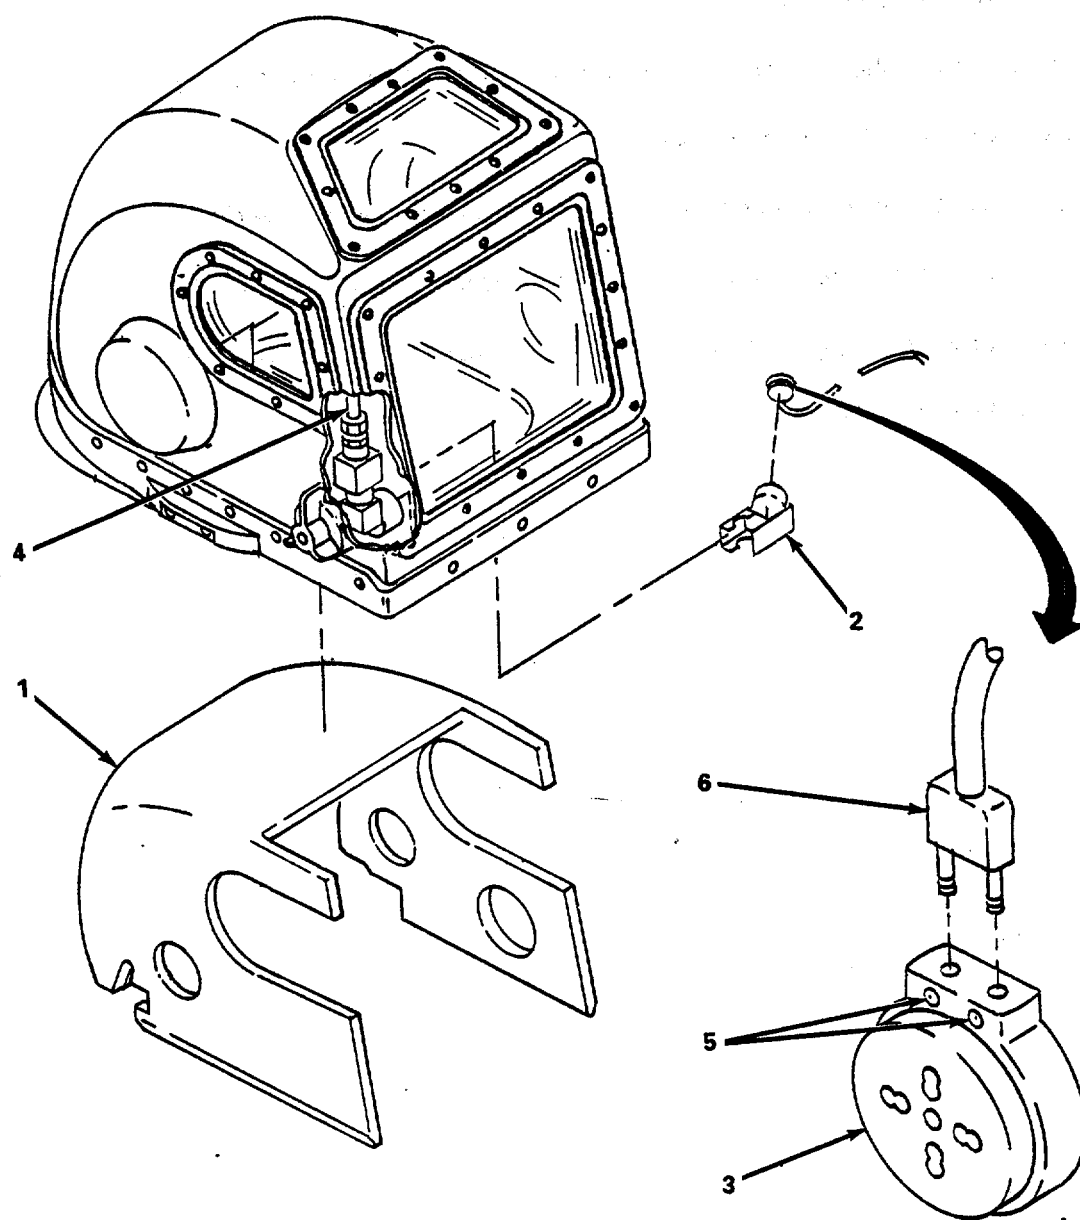

Figure 4-27. Microphone, Replace.
- (1) *Replace microphone.* (figure 4-27)
- (a) Remove helmet liner (1).
- (b) Remove microphone holder (2) with microphone (3) from air supply tube (4).
- (c) Remove holder (2) from microphone (3).
- (d) Loosen two setscrews (5) and remove connector (6) from microphone (3).
- (e) Connect connector (6) to new microphone (3) and tighten two setscrews (5).
- (f) Install microphone (3) on holder (2) and install holder (2) on air supply tube (4).
- (g) Install helmet liner (1).